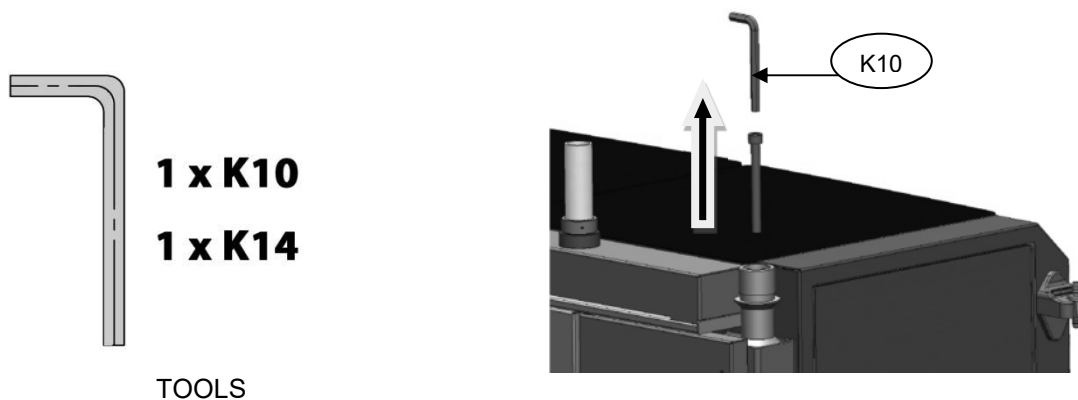

Fig. 1
3. Inside each cone you will see a screw M12 which must be removed using the Allen key **K10**. This key has a retention ball which will permit the lifting of the screw once unthreaded. (Fig.1)